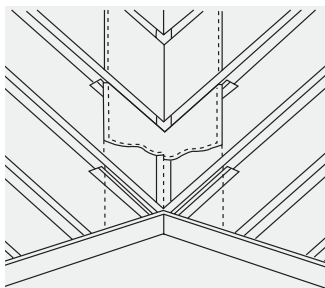

Fig. 66 – Construction of valley boards
- 1 In all cases, valley boards should be fitted. Valley boards may be inset or continuous over the rafters. Where they are inset, they should be a minimum of 12mm thick and supported on bearers or noggins of 50 x 25mm or similar and set at a depth to suit the thickness of the valley board (Fig. 66).